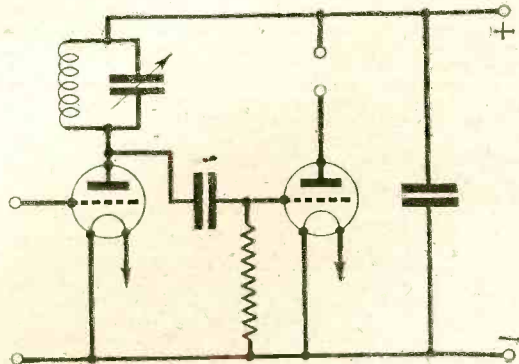

Fig. 41.—Tuned-anode-capacity circuit.
T.A.-C.C. is mainly used in R.F. amplifiers when added selectivity is desired. Fig. 41.